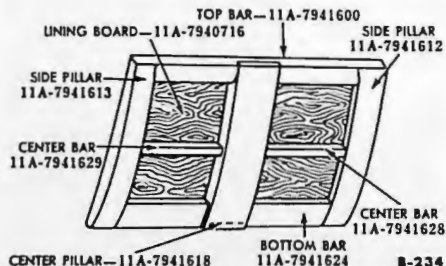

Fig. 4—Tail Gate
The tail gate wood part numbers are illustrated in fig. 4.
(1) **SIDE PILLAR REPLACEMENT (RIGHT OR LEFT) (fig. 4).** Remove the hardware and lining board. Remove the screws from the pillar joints. Remove the pillar from the top bar, center bar, and bottom bar. Clean the tenons and coat them with glue. Install the new pillar and clamp the joints until the glue is set. Install the screws in the joints. Install the lining board and hardware.
(2) **TOP AND BOTTOM BAR REPLACEMENT (fig. 4).** Remove the hardware and lining board. Remove the screws from one side pillar, and remove the pillar. Saw through the top or bottom bar near the remaining side pillar, and remove the bar. Using a chisel, clean the side pillar joint. Install the new bar, using glue on the joints. Clamp the joints until the glue is set to ensure tight joints. Install the lining board and hardware.
(3) **CENTER BAR REPLACEMENT (fig. 4).** Remove the hardware and lining board. Remove the screws from the joints. Remove the center bar, and clean the joints in the pillars. Install the new center bar, using glue on the joints. Install the screws in the joints. Install the lining board and hardware.
(4) **CENTER PILLAR REPLACEMENT (fig. 4).** Remove the hardware and lining board. Remove the screws from the joints. Saw through the center pillar near the top bar and bottom bar. Remove the center pillar. Using a chisel clean the top and bottom bar joints. Install the new center pillar, using glue on the joints. Install the screws in the joints. Install the lining board and hardware.